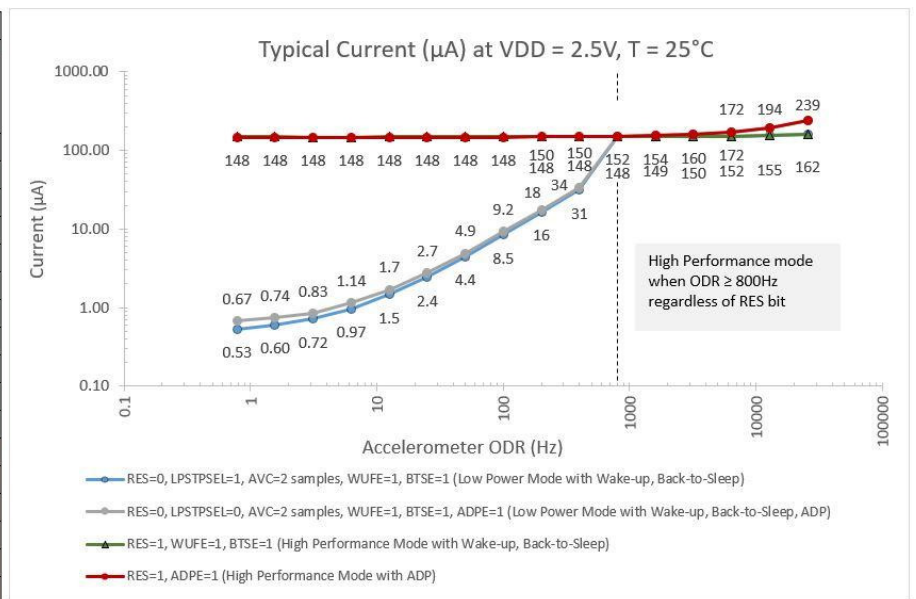

Figure 2: Current as a function of Output Data Rate (ODR) and Power Mode Settings
1. Current varies with Output Data Rate (ODR) as shown in Figure 2, types and number of enabled digital engines, the average filter control settings, and VDD. Measured with OWUF<2:0> = 0, OSA<3:0> = 0, AVC<2:0> = 1, LPSTPSEL = 1.